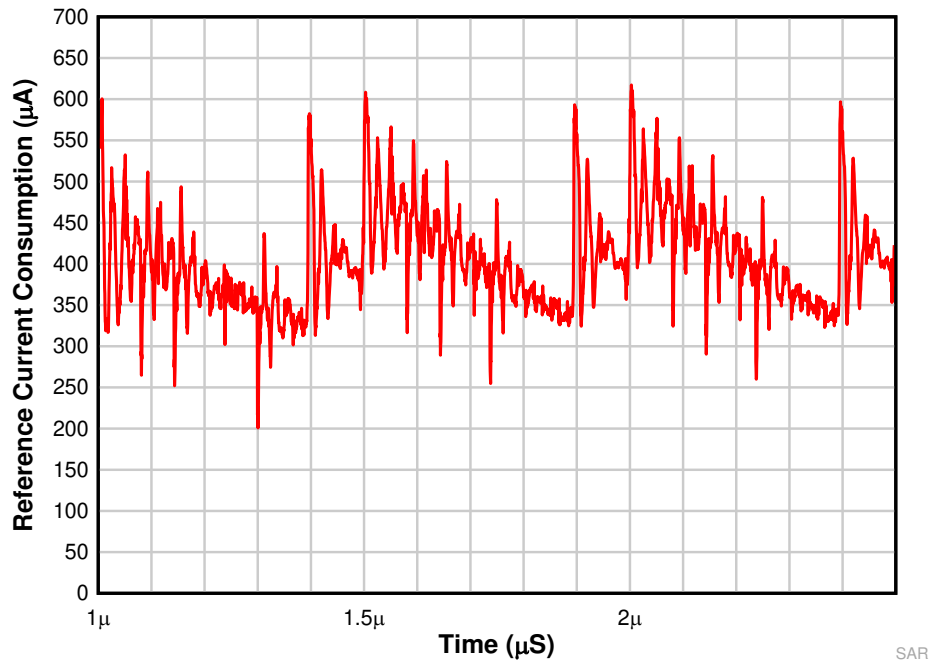

Figure 7-2. SAR ADC VREF Current Consumption
Figure 7-2 shows plot for transient current at 12 bit TI SAR AD7049 at AVDD (Reference pin) for 1V input when REF3433-Q1 is used as reference and sampling (CS) frequency is 2MHz and 64MHz Clock frequency. The load cap at reference pin is 10µF. The current is measured by measuring drop across 500Ω placed between reference pin of ADC and REF3433Q.